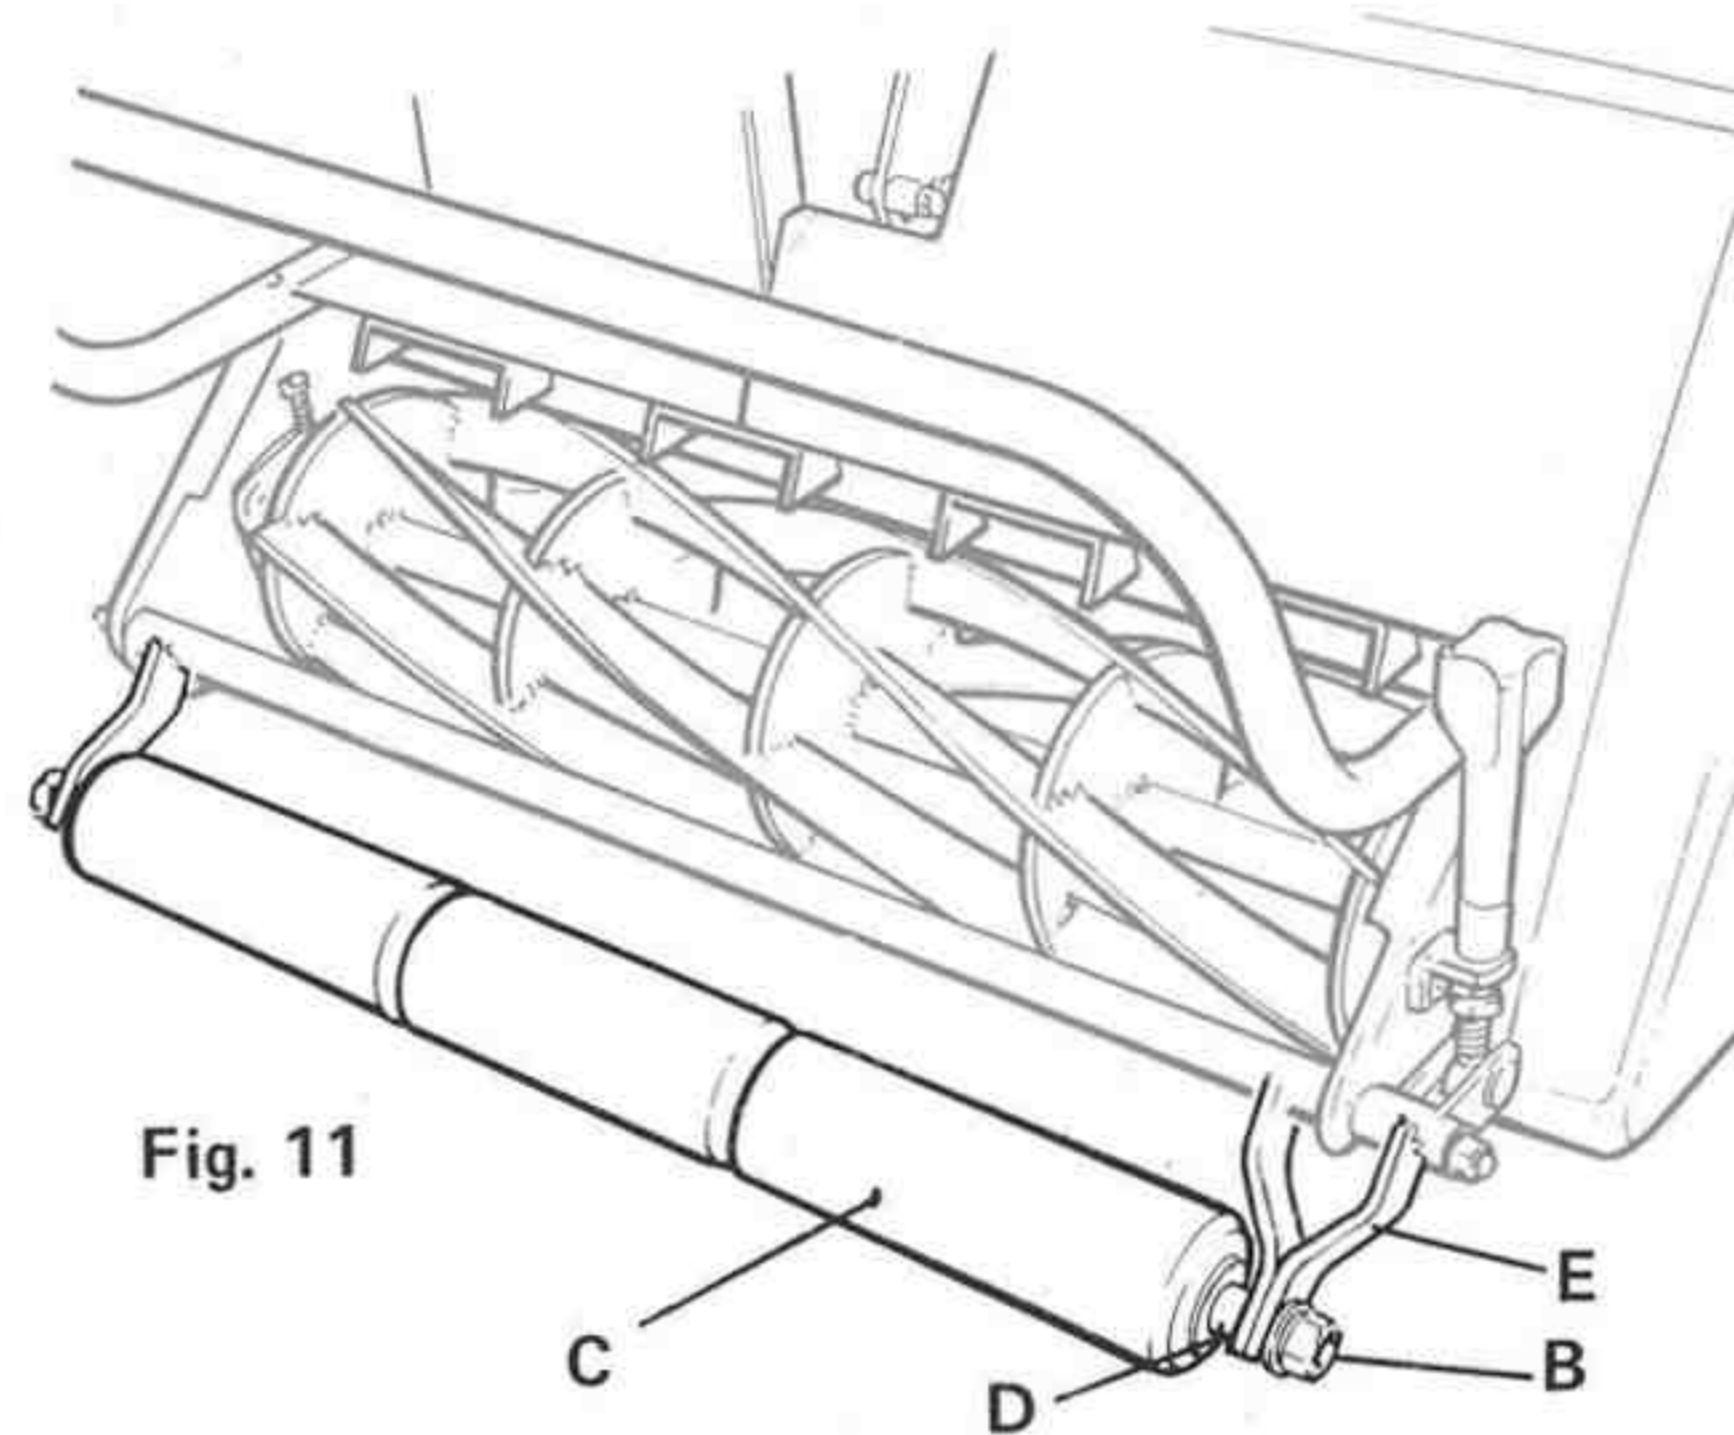

Fig. 11
3 Remove the nuts (B) and lift out the rollers and axle (C and D Fig. 11).
4 Remove the axle from the rollers and replace the axle in the forks of the front roller support arms (E Fig. 11).